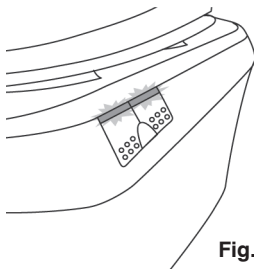

Fig. 2
- Carefully close the cap (F), screwing it to the end.
- Switch on the boiler and the iron by pressing the relevant switches (B) and (A). The corresponding LEDs will light (Fig. 2).